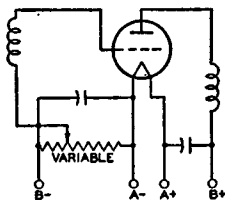

Fig. 78
**Grid-bias variation** for the rf and if amplifier stages is a convenient and frequently used method for controlling receiver volume. The variable voltage supplied to the grid may be obtained: (1) from a variable cathode resistor as shown in Figs. 78 and 79; (2) from a